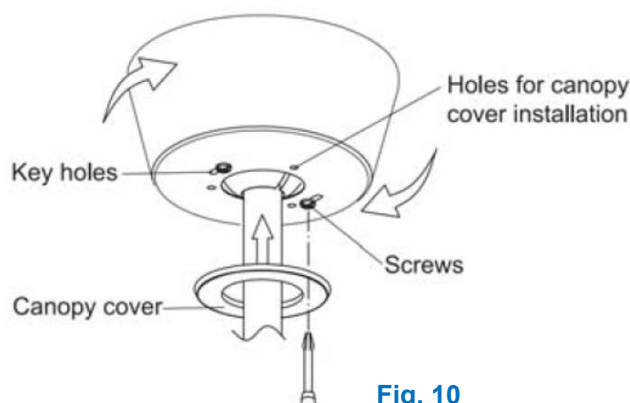

Fig. 10
- Loosen the two screws at the bottom of the mounting bracket by half a thread. (Fig. 10)
- Slide the canopy up to the mounting bracket and align the key holes on the canopy with the screws on the mounting bracket. Turn the canopy until it locks into place with the narrow section of the key holes and secure it by tightening the two screws. Avoid damaging the electrical wiring prepared previously. (Fig. 10)
- Attach the canopy cover onto the canopy by pushing the lugs into the holes. (Fig. 10)
- Install the 3V DC battery in the compartment. Please make sure the polarity of the battery is correct. Fig.10